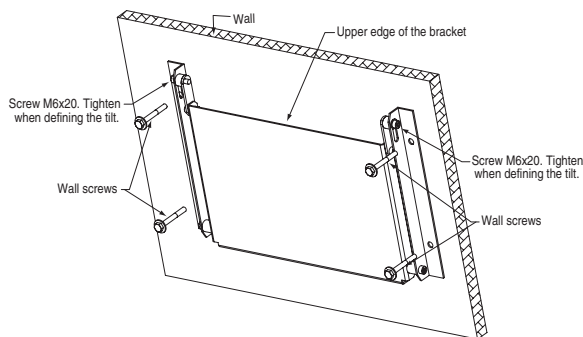

Figure 1
- ① Make sure the bracket is level by placing a carpenter's level on the upper edge of the mount.
- ② Wall mounting holes are located 16" apart on center. Hold the bracket against the wall and mark four drilling holes. Drill holes in the wall and attach the bracket with suitable screws (provided by installer) (see Fig. 1). Screws should be 6 mm (.2362") maximum diameter.
- ③ Tilt the bracket forward and secure with two M6 x 20 screws (see Fig. 1).